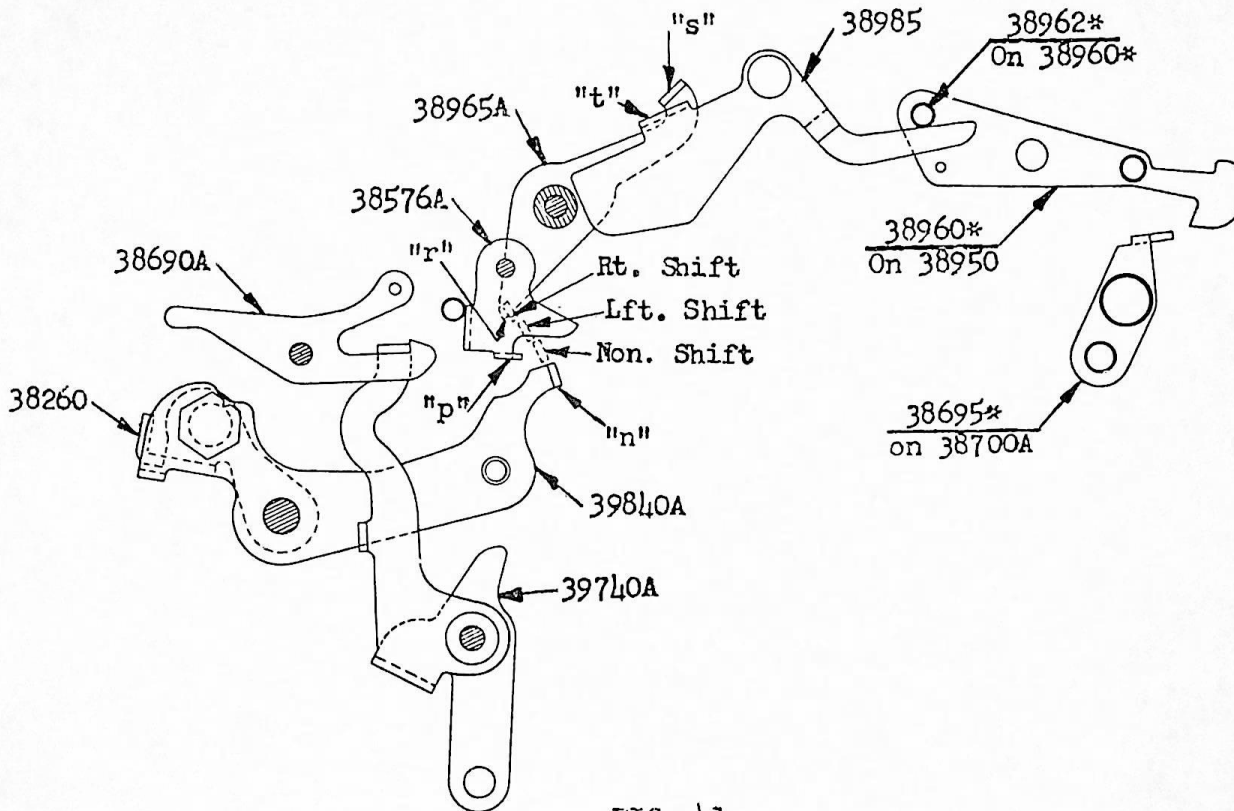

FIG. 41
5. (Fig. 41). In the case of
6. (Fig. 41). Normally the Shift Direction Mechanism is conditioned for left shift. When a leftward alignment shift is necessary the Bail-38260 drops to a position halfway between right shift and non-shift, (See Para. D3 on Pages 1264 and 1265), so that ear "n" on Arm-39840A rises high